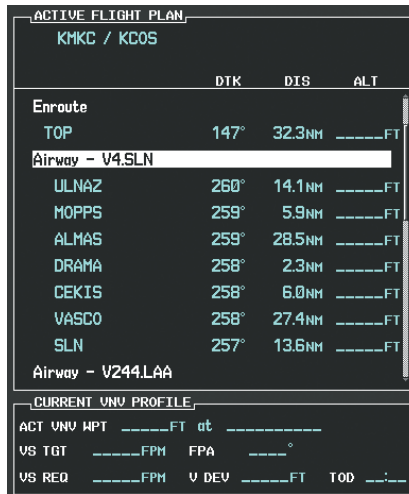

Figure 5-120 V4 is Loaded in the Flight Plan
I) V4 is now loaded into the flight plan as shown in Figure 5-120.